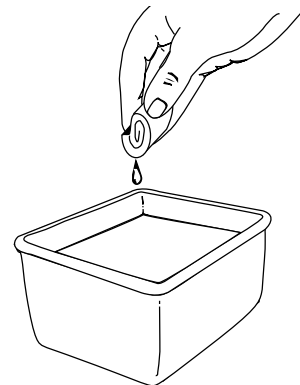

Fig. 18
4. Wash the filter in detergent and water (Fig. 18). Rinse the filter thoroughly and allow it to dry.